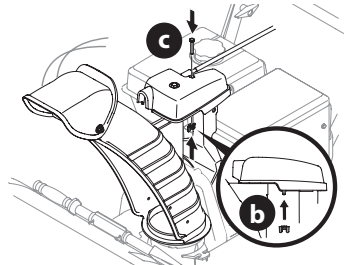

Figure 32
4. Finish securing chute control head by installing hex screw (c) and wing nut (b) removed in Step 1 (Figure 32).